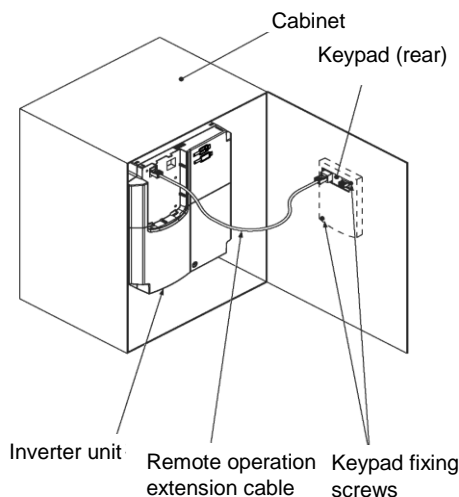

Figure 2.3-1 Mounting the Keypad in the Cabinet
- Mounting it on the cabinet door for remote operation (see Figure 2.3-1.)